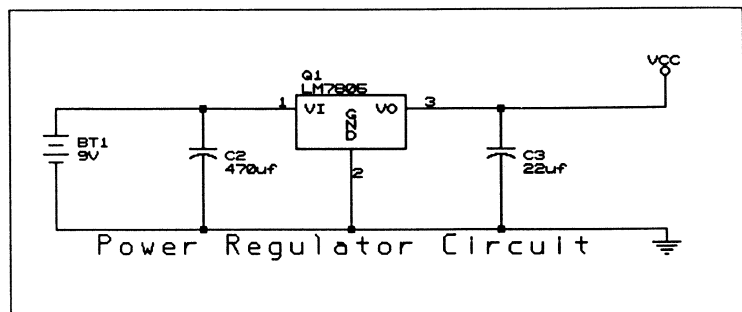

Figure 4-1. Power regulator circuit schematic.
Figure 4-1 shows the schematic diagram of the power regulator circuit you create in this chapter. Refer to this figure for placement and orientation information while performing the exercise.
3. The parts menu displays. Select an LM7805 (an IC regulator) and place it at location (15.00, 12.50), as shown in figure 4-1.
4. By now you should be experienced at placing parts. Get the capacitor and place one on each side of the regulator, as shown in figure 4-1.
5. Now get the ground symbol (GND) and place it in the location shown in figure 4-1.
3. If you look closely at the part, you'll notice that the pin 1 end of the part has a long heavy line as part of the border. The pin 2 end has a shorter heavy line as part of the border. The long heavy line indicates the positive terminal of the battery. As shown in figure 4-1, you want the positive terminal up, so rotate the symbol to this orientation (**Down**), and place it on the worksheet.
Compare your worksheet with figure 4-1. Notice that several wires are missing from your worksheet.
7. Now, connect wire segments between the remaining parts as shown in figure 4-1. Be sure to **Begin** and **End** each wire segment at the end of a part pin, not within the body of the part.
8. Using the **PLACE Junction** command, place junctions in the circuit at the five locations shown in figure 4-1.